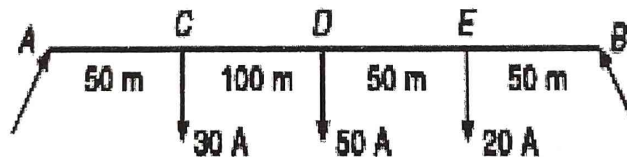

Fig.10(b)
9. a) With necessary diagram explain DC distributor with uniformly distributed loads fed at both end which are maintained at unequal voltages. Also derive the equation for voltage drop at different points for the chosen system. CO5 (10)
- b) With the help of a phasor diagram discuss the Ac distribution when power factors referred to receiving end voltage. CO5 (06)
- c) Why balancer in 3 wire DC distribution is used? CO5 (04)
10. a) Write short notes on the influence of voltage on the size of a feeder and a distributor. CO5 (06)
- b) A distributor AB is fed from both ends as shown in Fig.10(b) the loop resistance of the distributor is 0.5 ohm/km . calculate the minimum voltage and its location and currents in various sections of (i) voltage at A and B are equal to 230 volt, (ii) voltage at point A is 230 volt and at B it is 234 volt. CO5 (10)